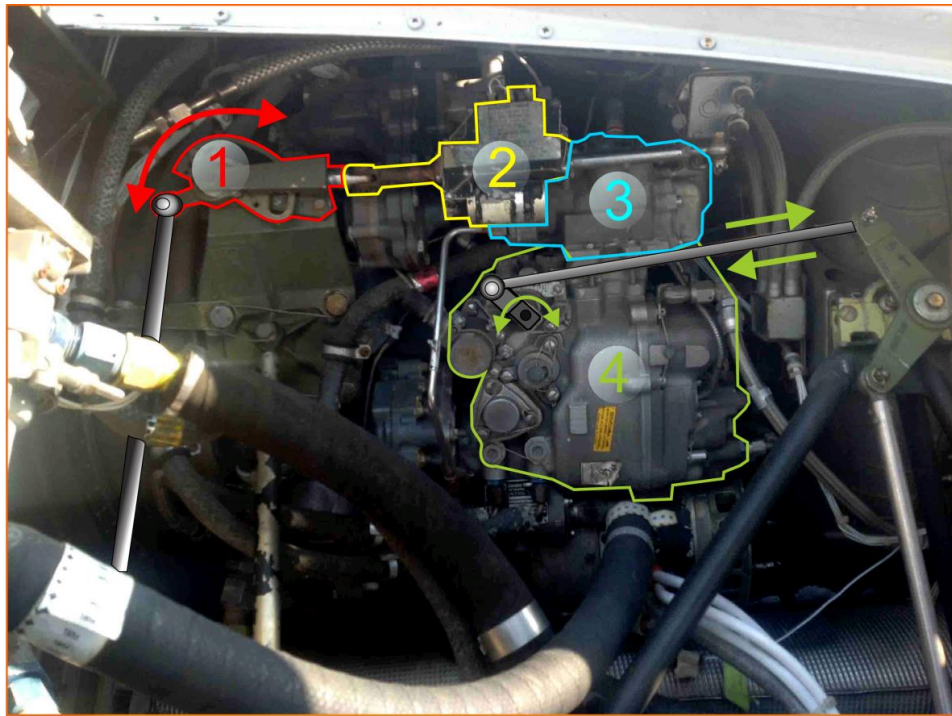

Figure 2.8. Engine Mounted Components.
- (1) The *METERING SECTION* (#4 in Figure 2.8) is driven at a speed proportional to N1 speed. It pumps fuel to the engine through
(2) The *COMPUTER SECTION* (also #4 in Figure 2.8) determines the rate of main fuel delivery by biasing main metering valve opening for N1 speed, inlet air temperature and pressure, and throttle position. It also controls the operation of the compressor air bleed and operation of the variable inlet guide vanes.
(3) The *OVERSPEED GOVERNOR* (#3 in Figure 2.8) is driven at a speed proportional to N2 speed. It biases the main metering valve opening to maintain a constant selected N2 rpm.
A droop compensator (#1 in Figure 2.8) maintains engine rpm (N2) as power demand is increased by the pilot. The compensator is a direct mechanical linkage between the collective stick and the speed selector lever on the N2 governor. No crew controls are provided or required. The compensator will hold N2 rpm to 6600 rpm when properly rigged. Droop is defined as the speed change in engine rpm (N2) as power is increased from a no-load condition. It is an inherent characteristic designed into the governor system. Without this characteristic instability would develop as engine output is increased resulting in N1 speed overshooting or hunting the value necessary to satisfy the new power condition.